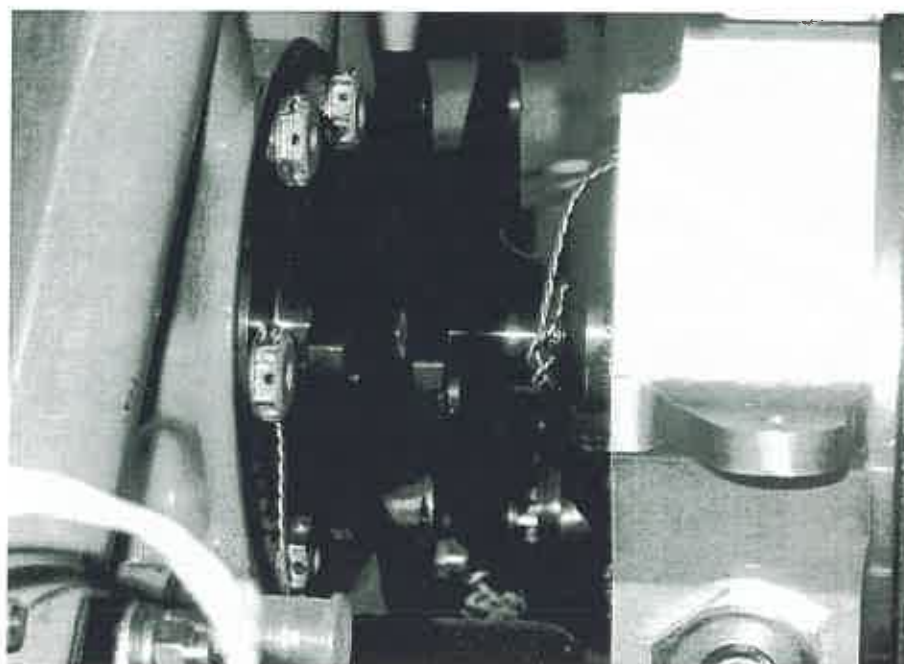

Figure 10 - Flange Position for Lateral and Axial Alignment Check
7. Use both tie rods when adjusting the lateral alignment of the lower pulley drive shaft to the power output shaft. Once the bolt can be threaded into the power output shaft, fine adjustments can be made with the help of a second person. As the bolt is slowly being threaded into the power output shaft, the second person slight adjusts the front tie rod as required for the bolt to freely thread into the power output shaft (See Figures 10 and 11).
8. Axial alignment between the power output shaft and the lower pulley drive shaft is obtained by adjusting the aft tie rod. Use feeler gauges, telescoping gauges, gauge blocks, or other measuring device to determine the distance between the flanges at the 9 o'clock and 3 o'clock positions (See Figure 10 for 9 o'clock position; 3 o'clock position opposite).